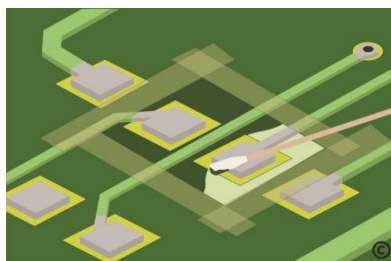

Fig 8.10
2. If required, apply high temperature tape in order to outline the area where the replacement solder mask will be applied (**Fig 8.10**)